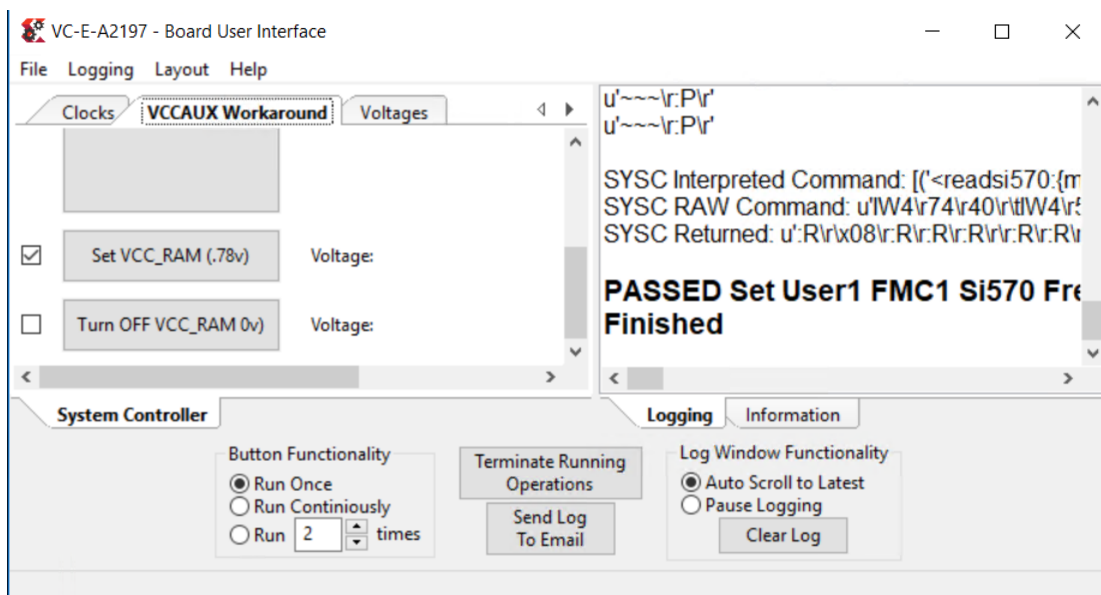

Figure 5-52: Setting VCC_RAM
- Select the **VCCAUX Workaround** tab, and then select the checkbox for **VCC_RAM (.78v)** as shown in Figure 5-52.